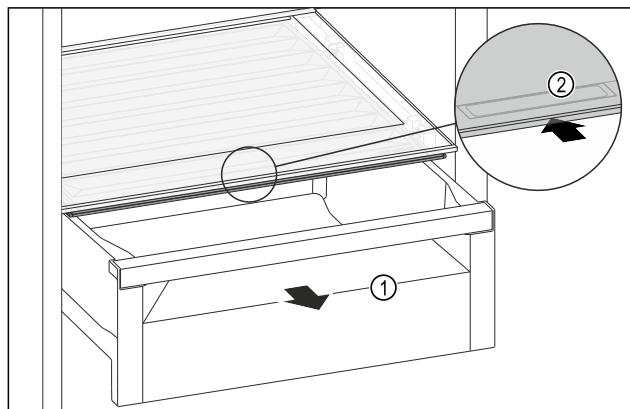

Fig. 140
- ▶ Pull out the drawer Fig. 140 (1).
- ▶ Grasp the recessed grip Fig. 140 (2) on the compartment lid and push the compartment lid backwards at the same time.